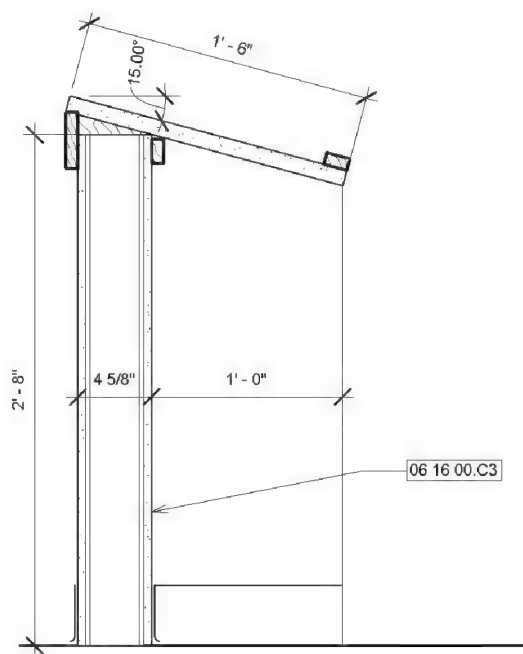

FIGURE 10-5.13 Keynote added
80. With the *Keynote* tool active, click the 1/2" particle board shown in Figure 10-5.13; you will see it highlight just before selecting it.